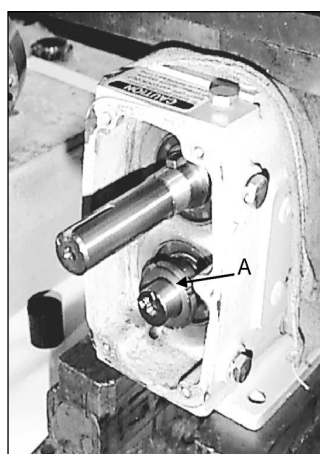

Figure 58 - Install locknut sleeve
6. Turn the gear case around. Apply anti-seize to the locknut sleeve (Figure 58, item A) and install it on the short shaft.